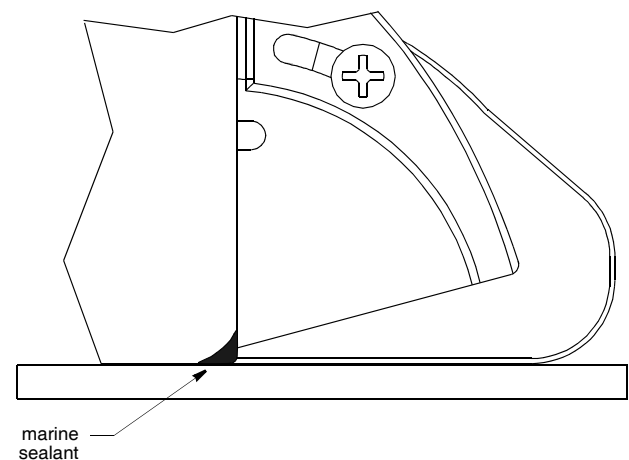

Figure 7. Filling the gap
2. Fill the gap between the sensor and the hull with marine sealant using a putty knife for smoothing (Figure 7). Pay particular attention to the transition from the hull to the adjustable paddlewheel assembly. This will ensure smooth water flow over the paddlewheel.